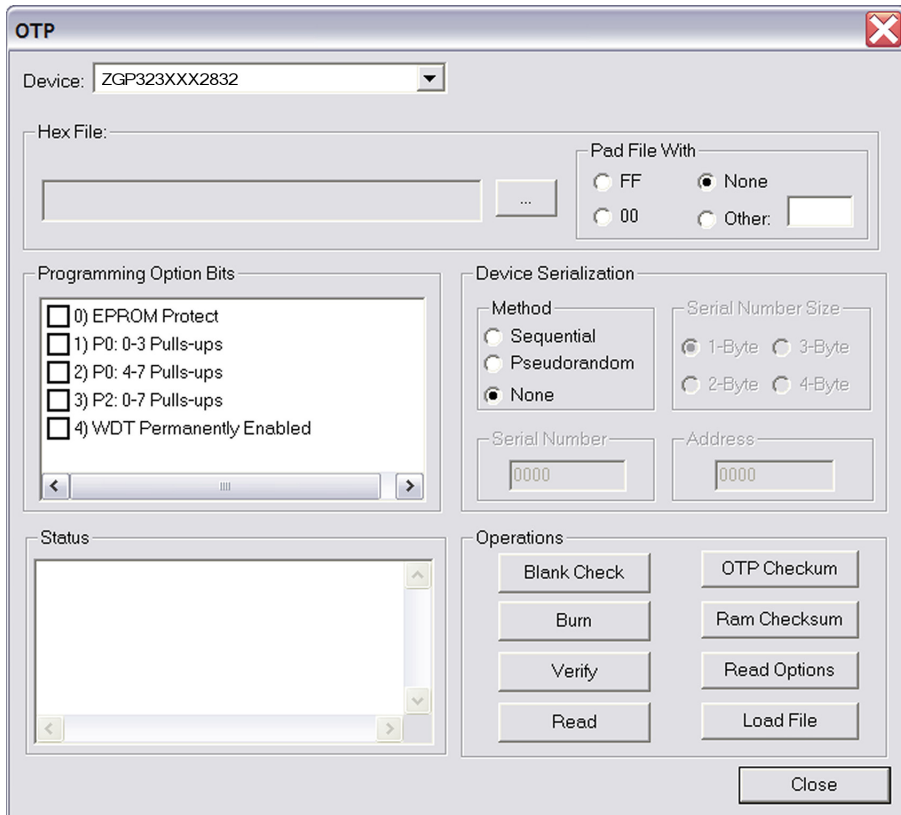

Figure 6. OTP Programming Window (Hex File Example)
24. Select **Tools** → **OTP Programming** to open the **OTP** window, see Figure 6 on page 14.